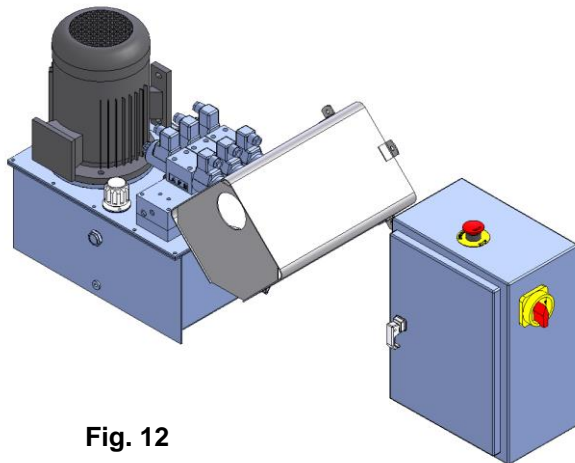

Fig. 12
- When the machine is connected, switch it on and check the correct direction of rotation; this should be as shown by the arrow on the motor unit. ( Fig. 12 )